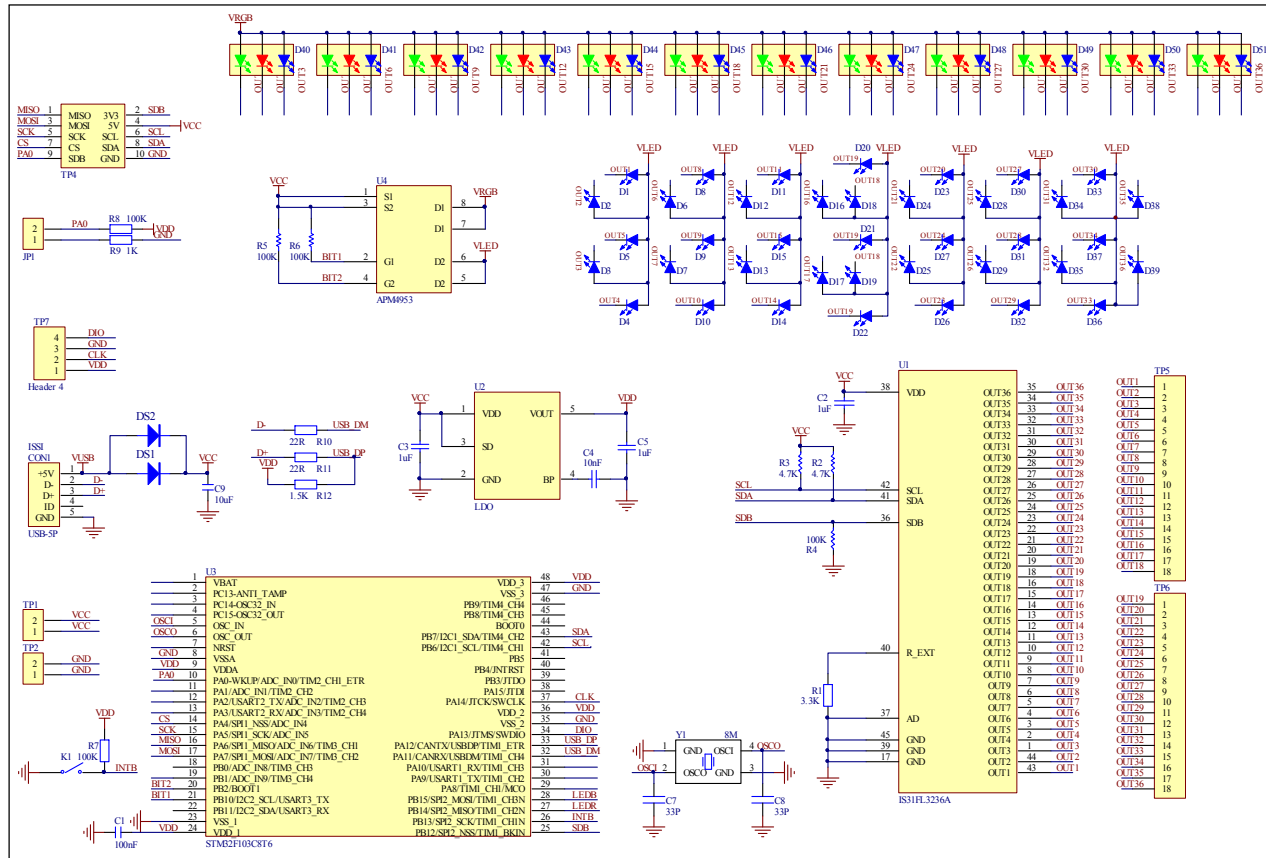

Figure 3: IS31FL3236A Application Schematic
*Bill of Materials, refer to Figure 3 above.*